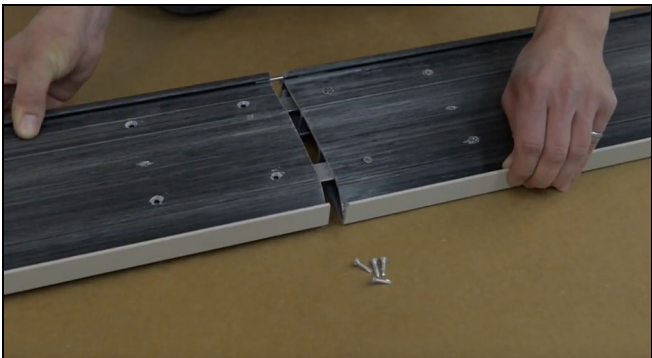

Figure 16
4. Align the sill sections and slide the parts together. See Figure 16.